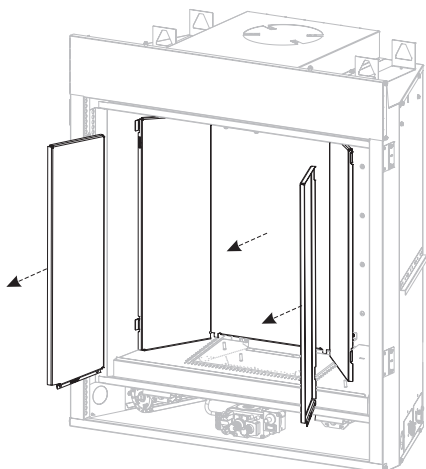

Figure 9
6. Remove liners as shown in Figure 9. **(If installed)**